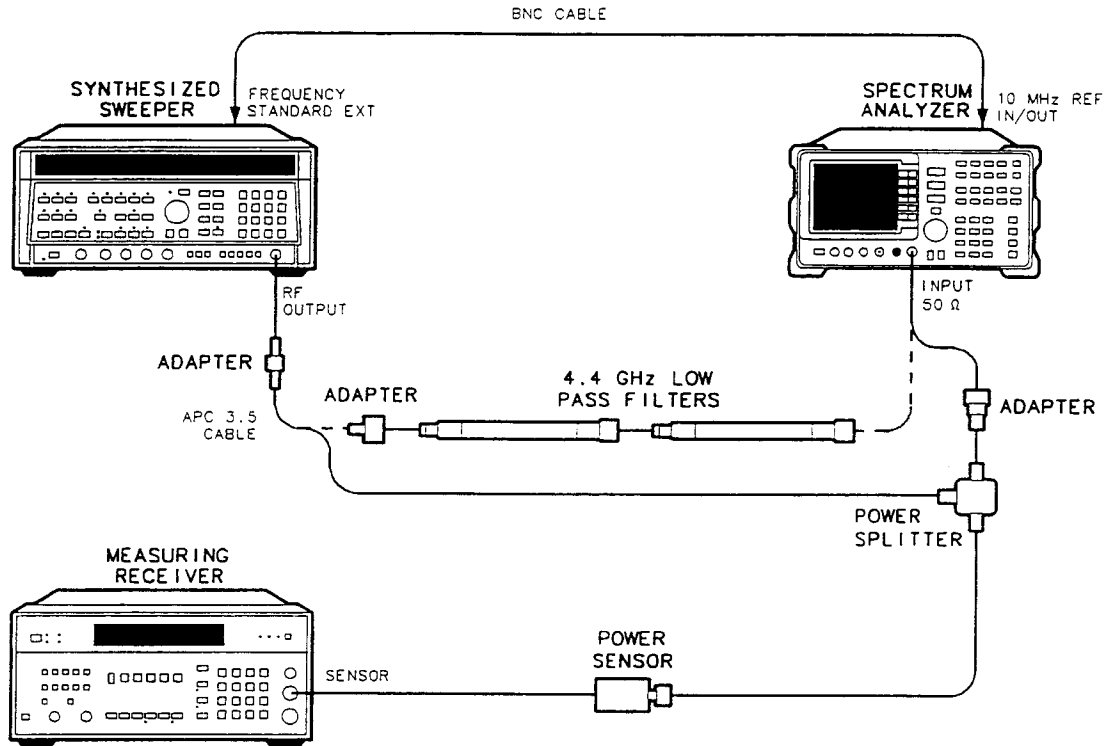

Figure 3-17. Second Harmonic Distortion Test Setup, Band 1
16. Connect the equipment as shown in Figure 3-17, without the filters in place.
28. Connect the equipment as shown in Figure 3-17, with the filter in place.